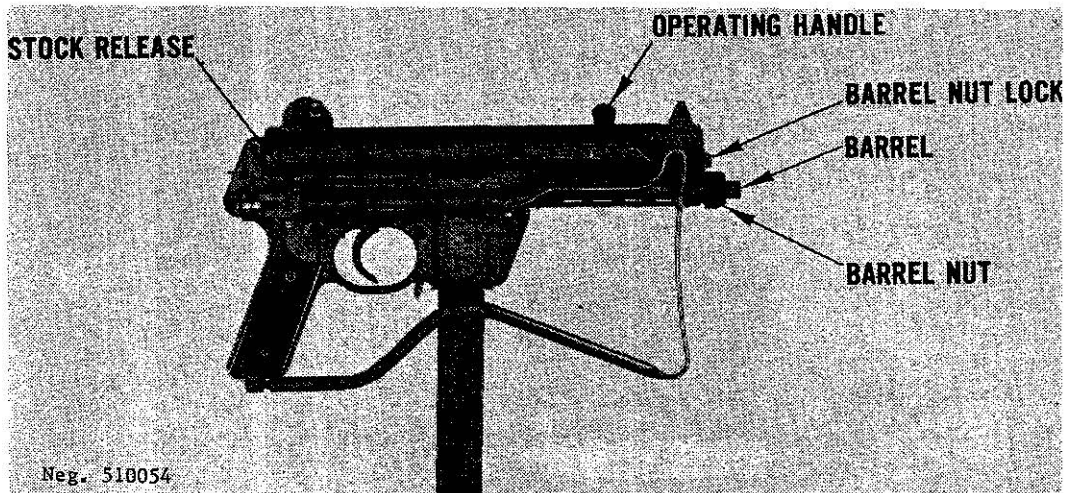

Figure 55. West German Walther MP-K submachinegun.
a. The 9-mm Walther MP-K and MP-L submachineguns (fig 55 and 56) are not standard in any army, but they are produced in large quantities and are found in use by paramilitary and naval forces. The MP-K (Maschinen-Pistole Kurz-submachinegun, short) and MP-L (Lang-Long) are identical except that the barrel and front receiver of the MP-L are longer than those of the MP-K. The guns are easily recognized by their prominent rear sight guards, the bulging appearance of the top receiver, and the oddly shaped folding metal butt stock.
b. If the stock is folded forward, grasp it and vigorously pull it to the side, away from the receiver. Continue moving it rearward until it locks into its open position. To fold the stock forward, press the stock release (fig 55) and swing the stock forward. Best results are obtained, when firing, by using the extended stock; however, for close-range firing, the vertical part of the fold stock can be used as a foregrip to aid in controlling the pointing of the gun.